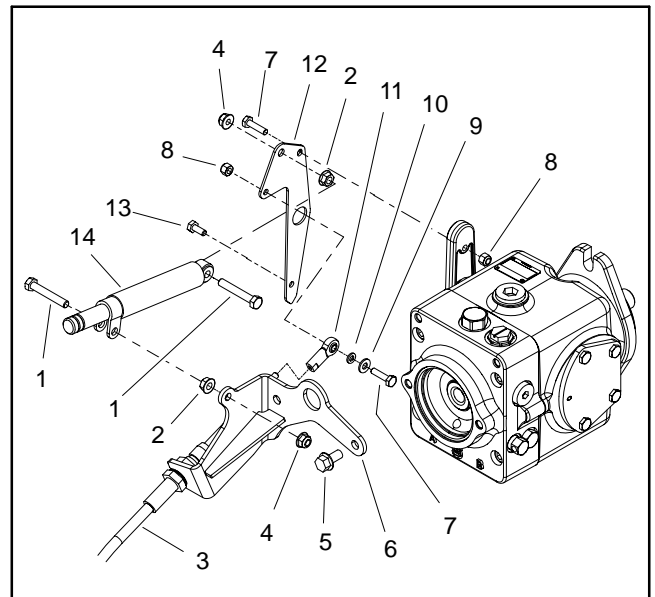

Figure 69
6. Separate traction cable assembly from traction pump (Fig. 69):
- A. Remove flange nut (item 4 in Fig. 69) that secures lever damper (item 14 in Fig. 69) to traction cable bracket.
- B. Remove cap screws (items 7 and 13 in Fig. 69) and lock nut (item 8 in Fig. 69) that secure traction lever bracket (item 12 in Fig. 69) to pump lever.
- C. Loosen jam nuts that secure traction cable to traction cable bracket (item 6 in Fig. 69).
5. Secure pump support bracket to inside of frame bracket with two (2) carriage screws (item 12) and flange nuts (item 15).
8. Secure traction cable assembly to traction pump (Fig. 69):
B. Secure traction lever bracket (item 12 in Fig. 69) to pump lever with cap screws (items 7 and 13 in Fig. 69) and lock nut (item 8 in Fig. 69).
C. Secure lever damper (item 14 in Fig. 69) to traction cable bracket with flange nut (item 4 in Fig. 69).
D. Secure traction cable to traction cable bracket (item 6 in Fig. 69) with jam nuts.